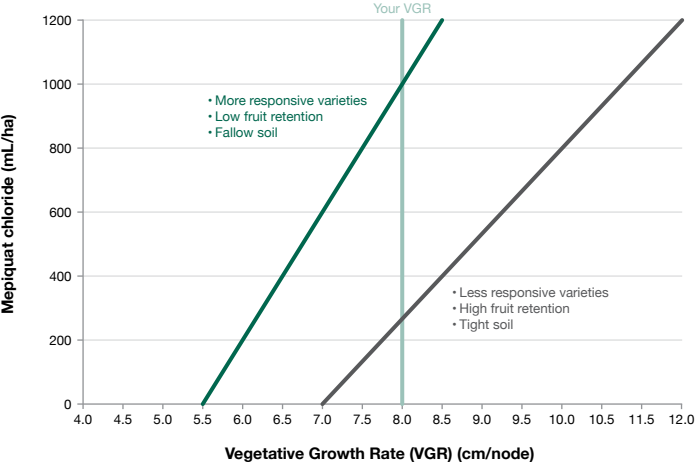

Figure 7.4: The VGR tool incorporating VGR measurements and other crop factors.
- **Figure 7.4:** The VGR tool incorporating VGR measurements and other crop factors.